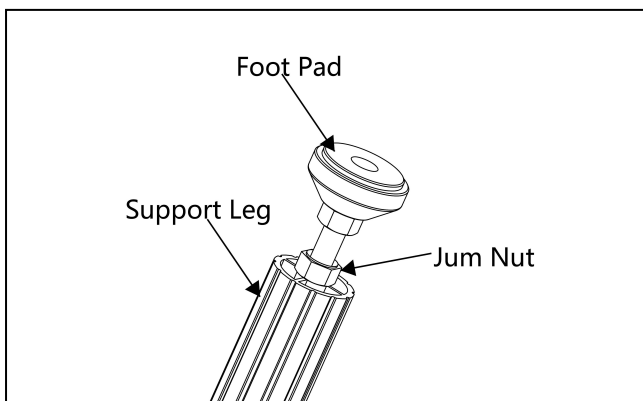

Fig.9
1. Thread the foot pad assemblies into the bottom of the support legs, as shown in **Fig 9**. For now, do not tighten the jam nuts up to the legs so that you can adjust the height of the legs in a later step.